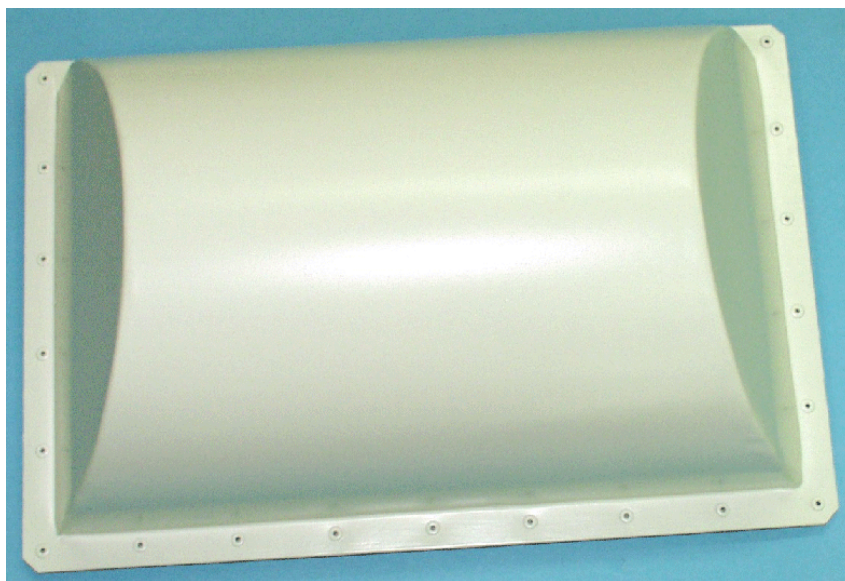

Figure 3-15: BS 10.5 GHz 90° Vertical Sector Antenna (top)
1. Referring to Figure 3-15 below, for each of the two mounting brackets, thread two mounting straps through the mounting bracket's slots.